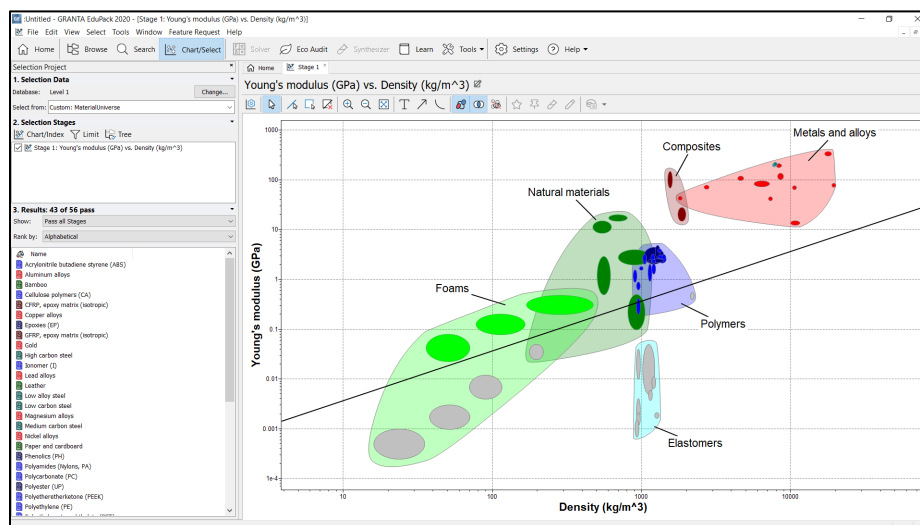

Figure 7. A screen of the Granta Edupack interface
- Selecting a material using the ANSYS-Granta EduPack material selector (Figure 7)